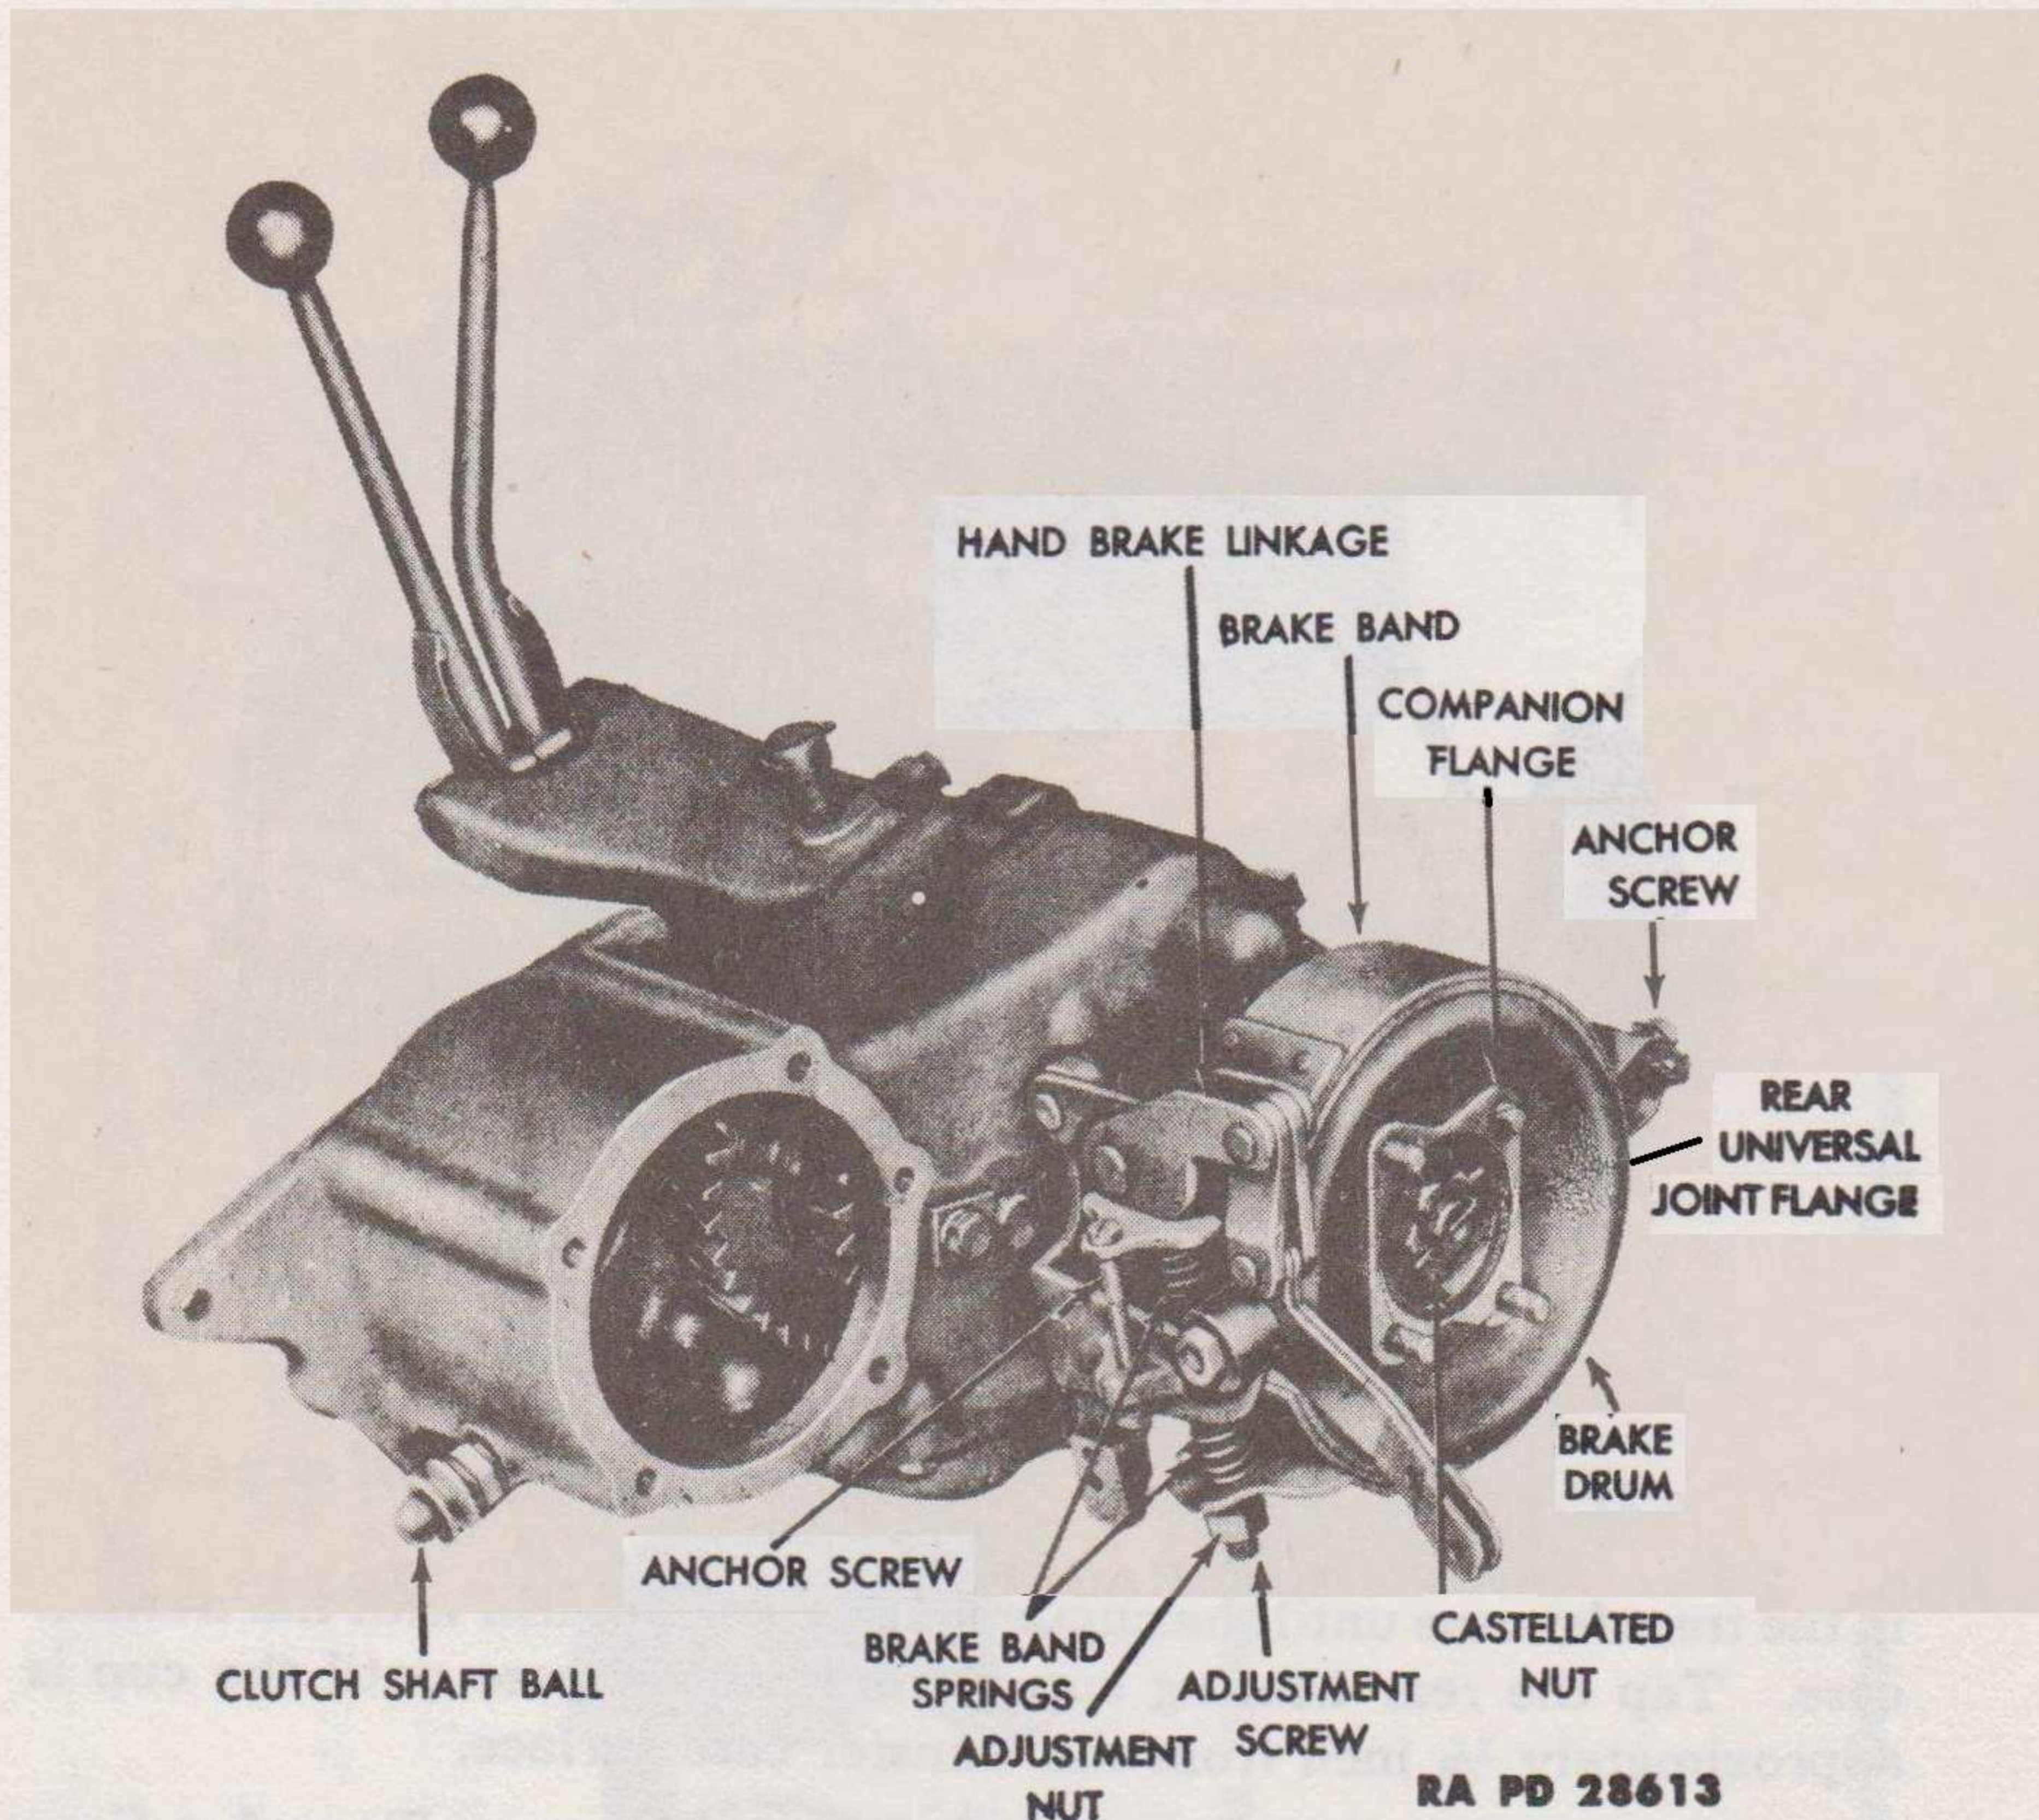

Figure 28 — Transfer Case
a. Description. The transfer case (figs. 28 and 29) is located at the rear of the transmission. The transfer case is essentially a 2-speed transmission, which provides two gear ratios and a means of distributing the power from the transmission to the two axles.
a. **Remove Brake Band and Drum Assembly (fig. 28).** Remove the two anchor screws from the brake band. Remove the brake band adjusting nut and adjusting screw. Remove the clevis pin from the hand brake linkage. Remove the brake band assembly. Remove the castellated nut that secures the universal joint flange to the output shaft. Install puller 41-P-2912 on the universal joint flange and remove the flange and brake drum (fig. 18). *NOTE: The puller illustrated in figure 18 is similar to puller 41-P-2912.*
h. Install Brake Band to Transfer Case (fig. 28). Place the brake band on the brake drum. Place the brake band springs between the rear output shaft bearing cap and the ends of the brake band. Install the nut and bolt that secure the hand brake linkage to the rear output shaft bearing cap. Insert the adjusting screw through the brake band linkage, brake band springs, and install the adjusting nut. Install the two anchor screws on the brake band.